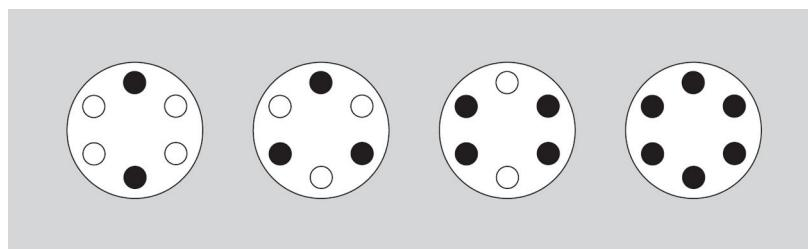

Figure 2. Arranging Loads in the Rotor.
2. Place sample in bottles, secure bottle caps if applicable, and place each bottle in a cannister. (Or, load tubes, place tubes in the appropriate adapters, and place each adapter in a cannister). Opposing bottles or tubes must be filled to the same level with liquid of the same density. Load cannisters symmetrically into the rotor (see Figure 2); opposing loads must balance to within 10 g.